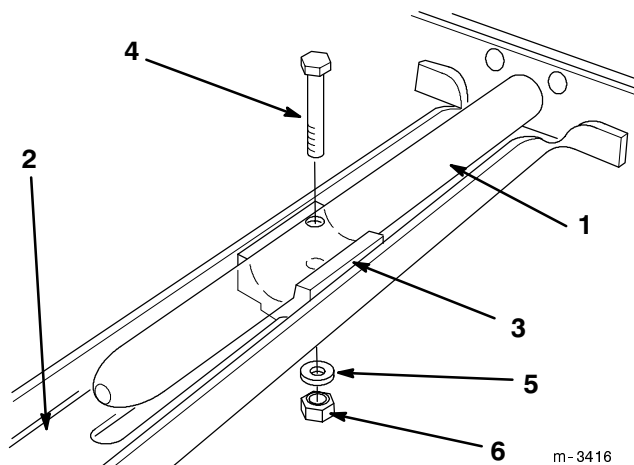

Figure 3
1. Open the grass basket and slide the dump handle through the hole in the top of the basket and into the handle channel (Fig. 3). Ensure that the handle grip is positioned so that it will point toward the front of the tractor when installed.
2. Lift up on the end of the dump handle, positioning it on the handle guide in the channel with the holes in the handle and guide aligned (Fig. 3).
3. Secure the handle guide and dump handle to the channel with the 1/4" x 2" bolt, 1/4" washer, and 1/4"-20 locknuts (Fig. 3)